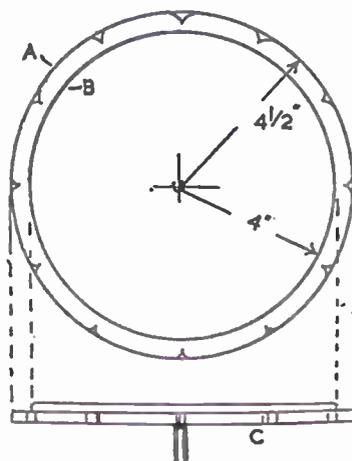

Fig. 3
For the rotating cake-board, strike circle (A) Fig. 3 on a piece of  $\frac{1}{2}$  in. ply-